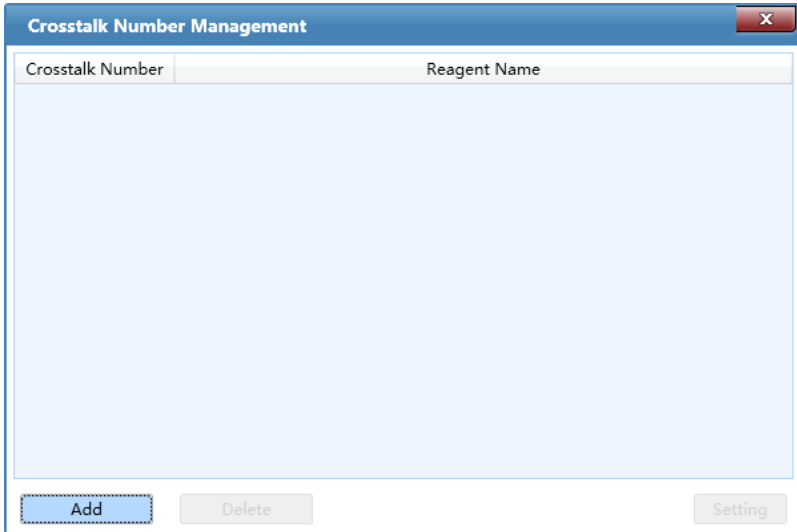

Figure E-3.7. Add Crosstalk Number
- Crosstalk Number Management:** user can add crosstalk number in Crosstalk Number Management, as shown in figure E-3.7.